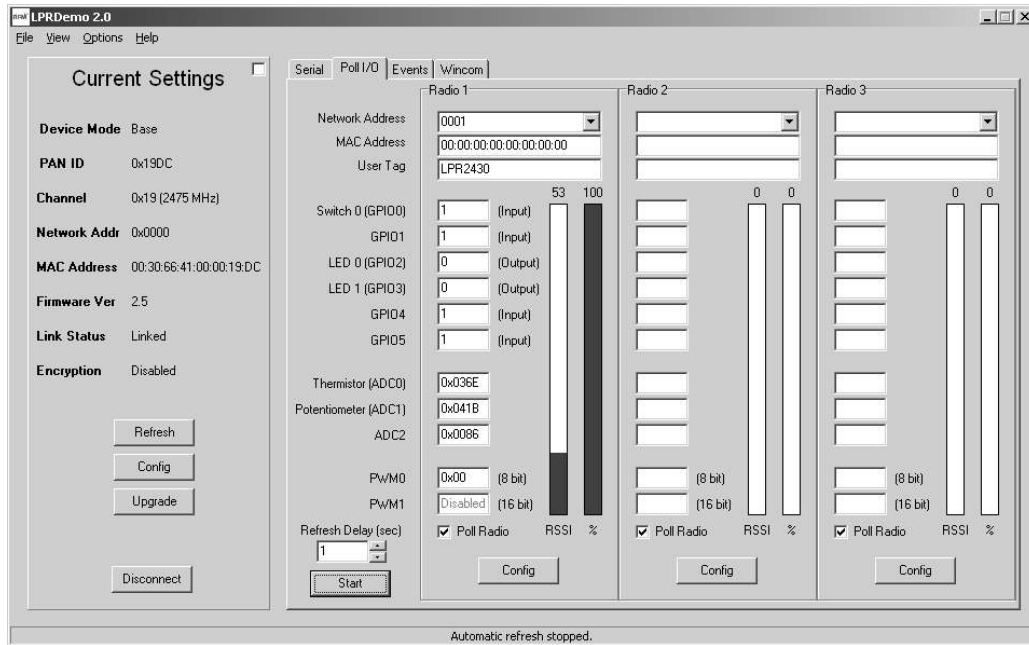

Figure 6
- Next power up the Remote by plugging in its power supply or installing a battery. Click on the *Poll I/O* tab. Figure 6 shows the Poll I/O screen. Select the Remote's network address, 0001, in the *Network Address* drop-down box for *Radio 1*. If the address is not present, wait a few seconds to give the remote time to register with the base.